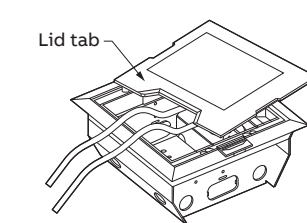

Figure 5
3. Close AFM Lid and make certain cords are within the slot opening. Insert Lid tab into slot in Carpet flange and push opposite end downwards to engage latch and snap Lid closed (see Figures 5 and 6).